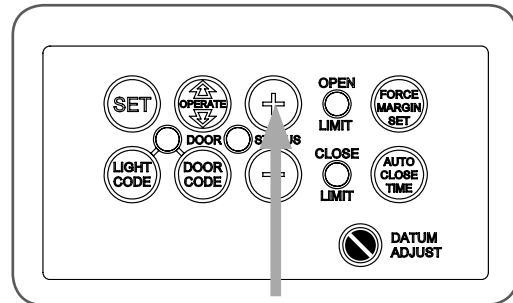

fig 37
- Make sure the door is closed, then press and hold the PLUS (+) button for six (6) seconds (**Fig. 37**), until you hear three beeps and the OPEN and CLOSE LEDs flash rapidly.